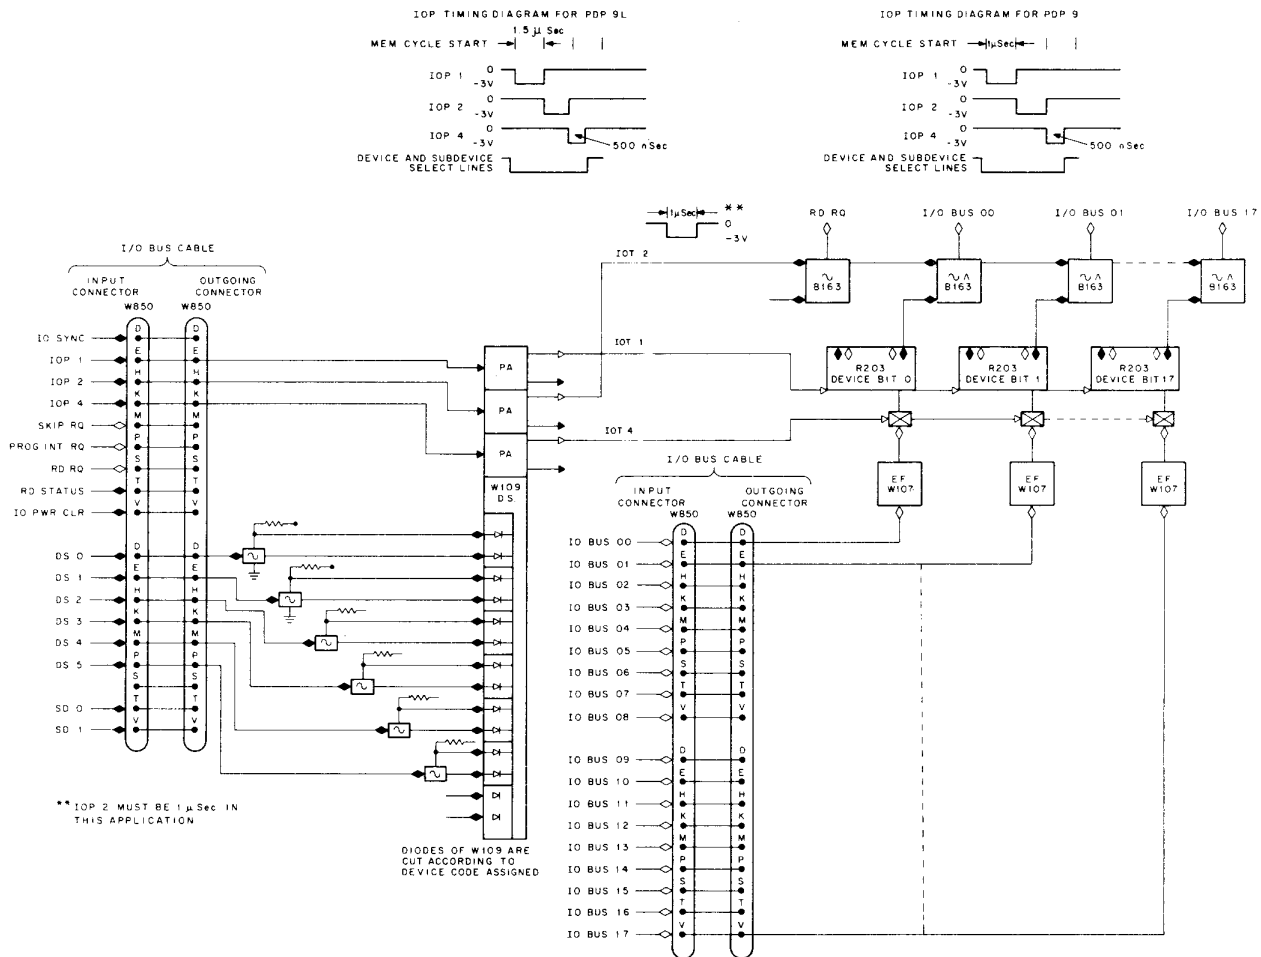

Figure 3-2 Reading and Writing on the PDP-9 and PDP-9/L I/O Buses
3.1.3.1 Loading a Device Buffer From The AC - Loading a device buffer from the AC (Figure 3-2) is usually accomplished by but is not restricted to the following two steps. The first IOT clears the device buffer and the second IOT ORs the contents of the AC into the cleared buffer. For such a transfer, the details are as follows: